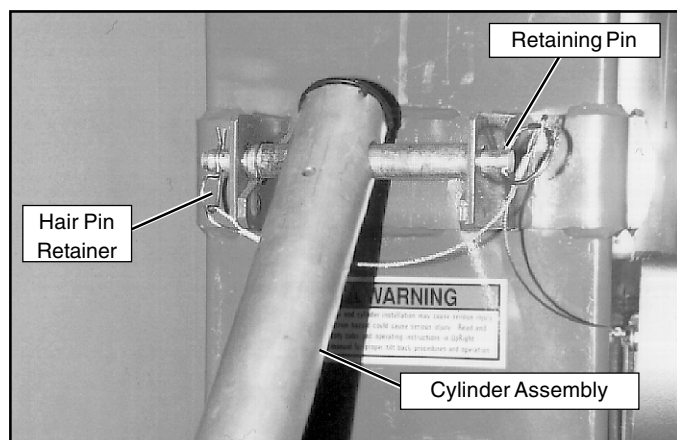

Figure 8: Cylinder secured with retaining pin
2. While holding Tilt Back frame, remove the hair pin retainer and the retaining pin (Figure 8).
3. Lower the Tilt Back frame until the hole in the cylinder assembly aligns with the upper mounting bracket pin hole. Secure the cylinder assembly to the upper mounting bracket using retaining pin and hair pin retainer (Figure 8).